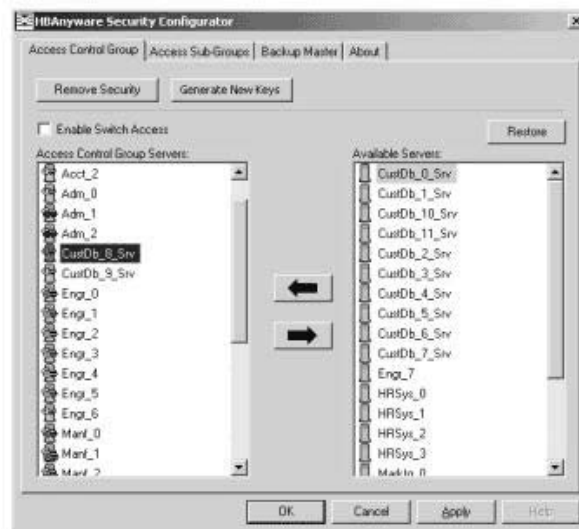

Figure 42: Access Control Group tab on an MSC System
1. On the Access Control Group tab, from the Available Servers list, select the unsecured servers to add to the AC G (Figure 42).
1. On the Access Control Group tab, from the Access Control Group Servers list, select the secured systems to delete from the ACG (Figure 42).
From the Access Control Group tab on the MSC, click **Restore** (Figure 42).
From the Access Control Group tab, check **Enable Switch Access**. (Figure 42).